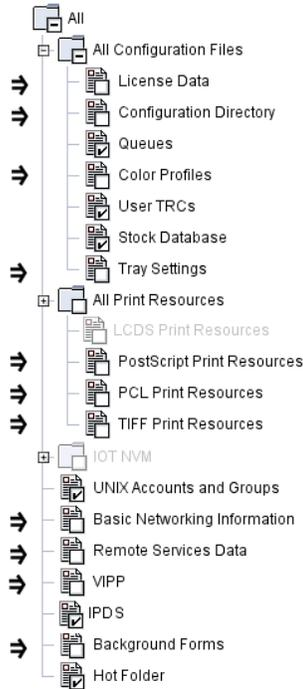

Figure 4.13 – Items to Exclude from the Restore
- __8. In the File Selection window, ensure the following items are not selected (Figure 4.13):